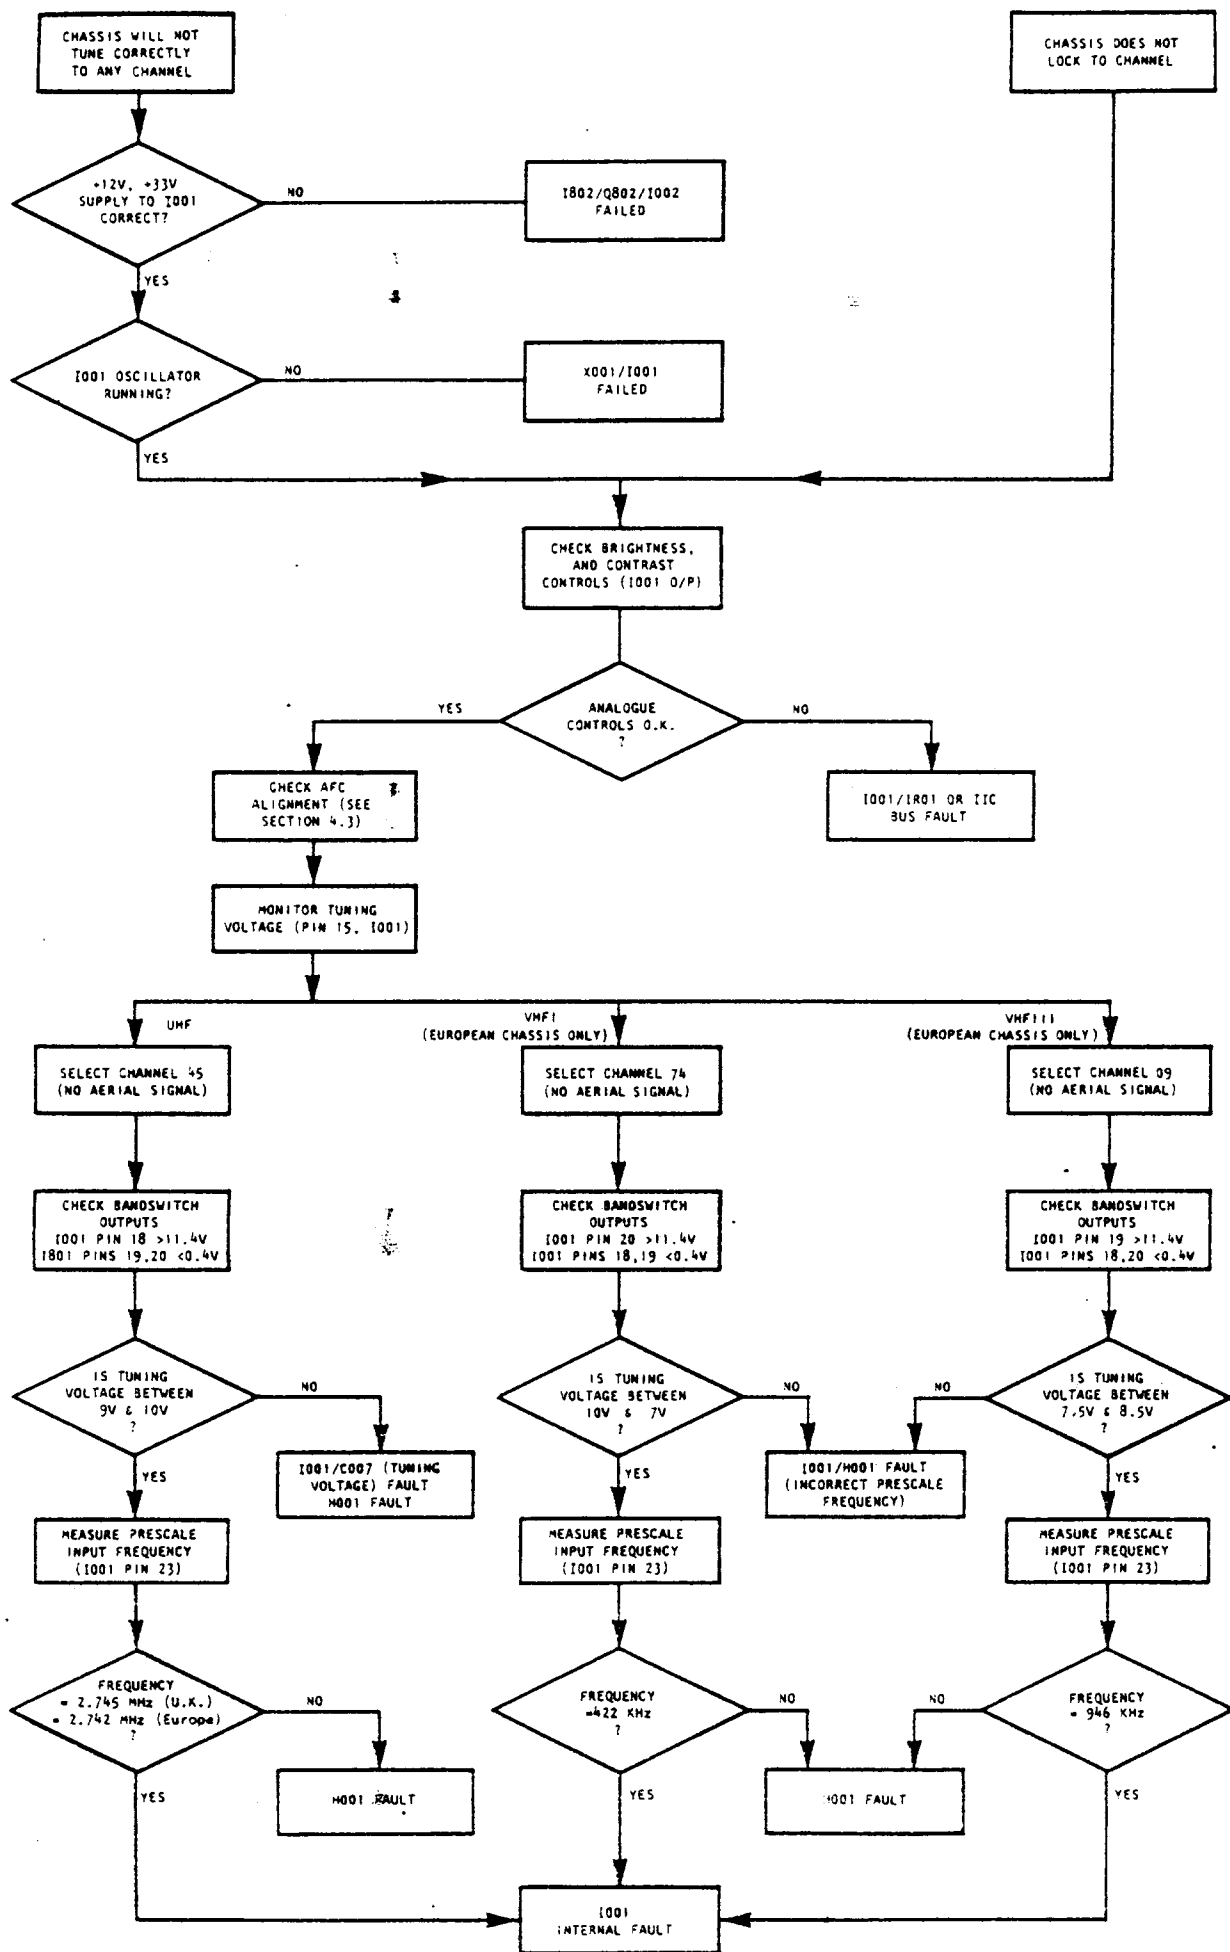

Fig 3.6 Fault Finding Chart - Tuning System
- 3.3 Tuning and Control System - including fault finding charts (Figs 3.6 & 3.7).